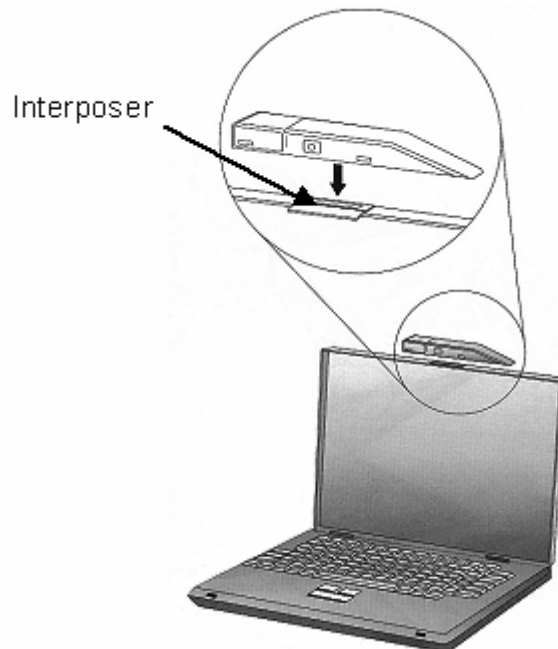

Figure 12-10.- Ultraport Camera position.
- 2.3 Open small cover above Interposer (refer to figure 12-10)
Refer to figures 12-10 and 12-11